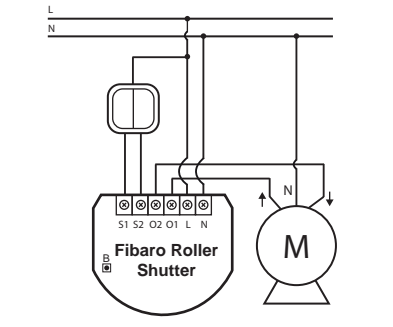
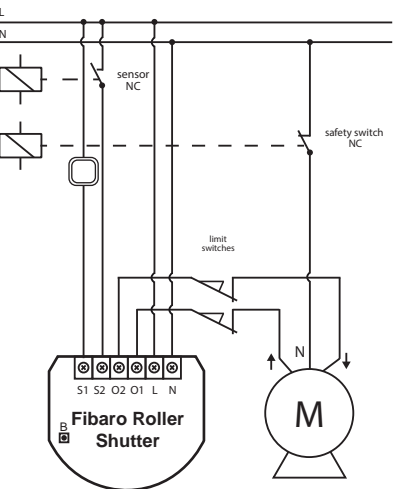

Fig. 1 Roller Shutter wiring diagram
Fig. 2 Connecting Roller Shutter to GATE motor
- Connect the Roller Shutter in accordance with the wiring diagram presented on Fig. 1 (roller blinds, venetian blinds) or Fig. 2 (gates).
- Arrange the antenna (tips presented below Fig.2)
1) Make sure the module is connected to the power supply, according to Fig.1
1) Make sure the module is connected to the power supply, according to Fig.1, and to the switch keys as well (S1 and S2 inputs).
- Make sure the module is connected to the power supply, according to Fig.1